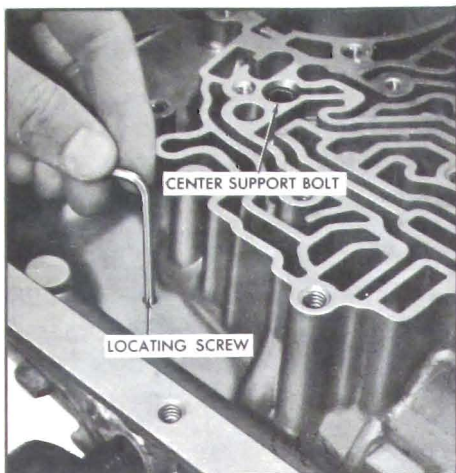

Figure 5-715
10. Install center support screw (tool) for locating. Torque to 2-4 ft. lbs. See Figure 5-715.